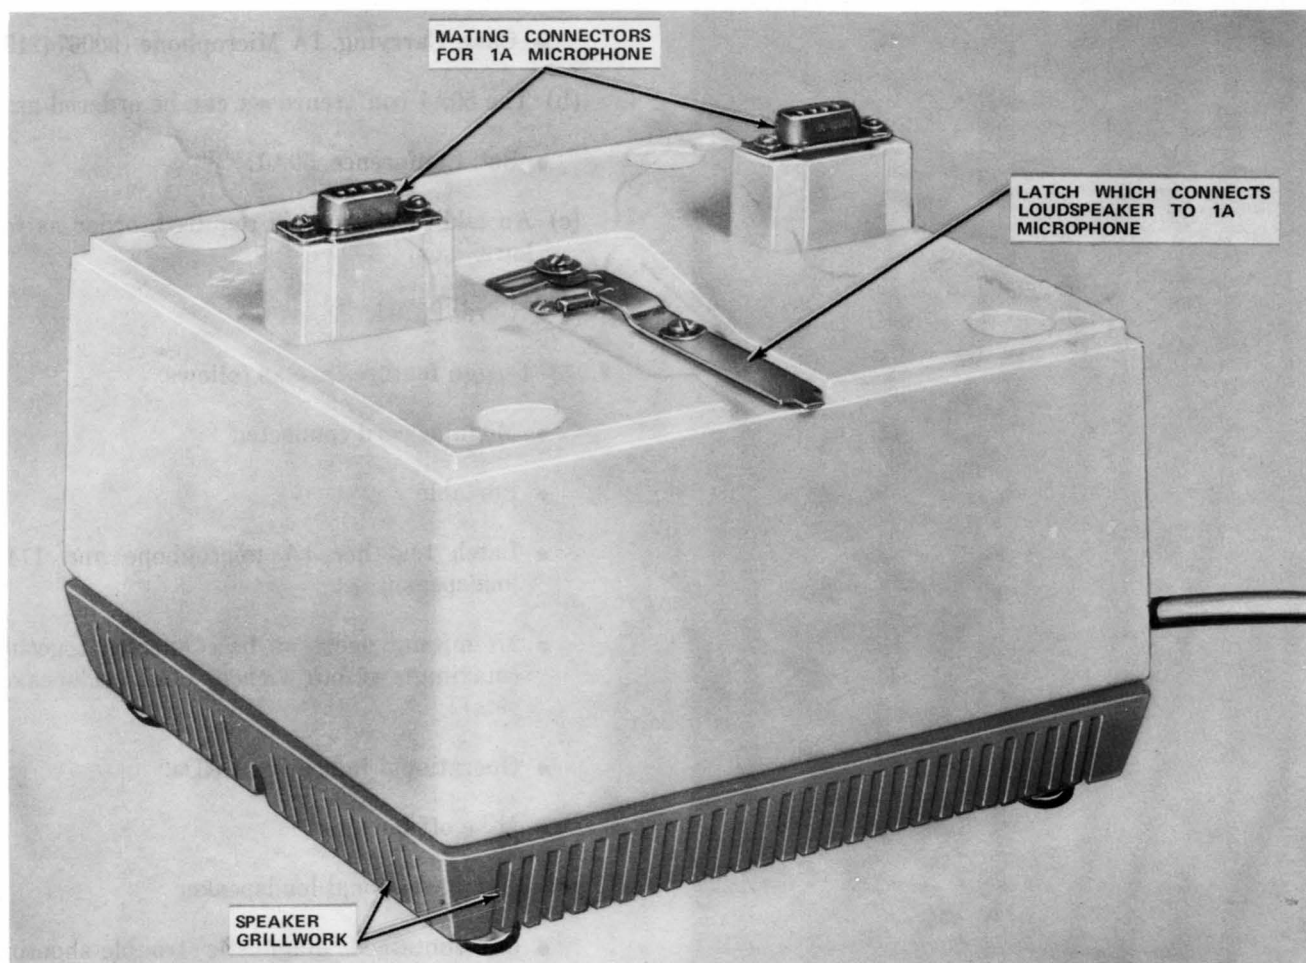

Fig. 3—114A Loudspeaker Set
2.02 The 114A loudspeaker set (ivory with a black shirt) transmits sound in all directions (Fig. 3). The loudspeaker set mounts underneath and plugs directly into the 1A microphone eliminating the need for a connecting cord.